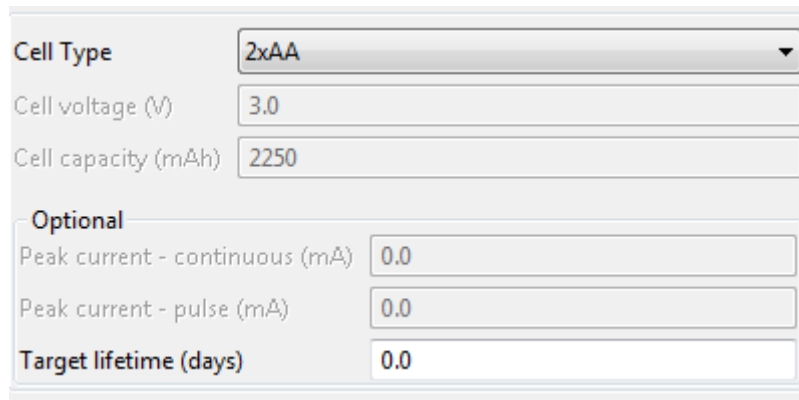

**Figure 4-7. Battery Selection**
- **Battery Selection** (see Figure 4-7): The window is used to select one of the available standard batteries or define a customized battery. The EnergyTrace will use the battery characteristics to calculate the estimated selected battery lifetime for the current application depending on the measured current consumption. Available standard batteries are CR2032, 2xAAA or 2xAA.